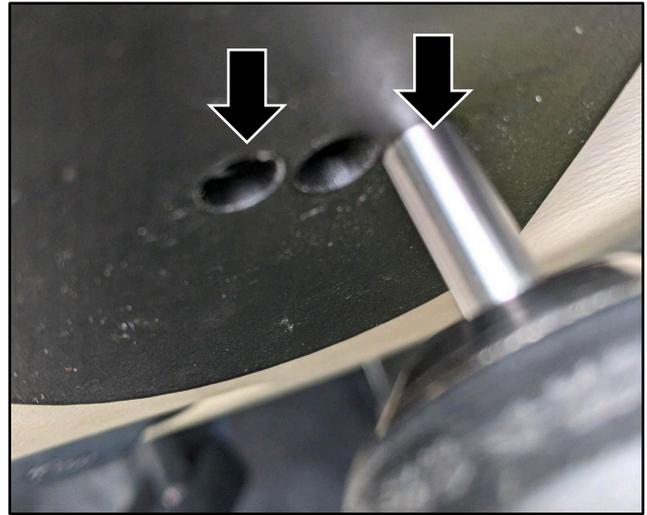
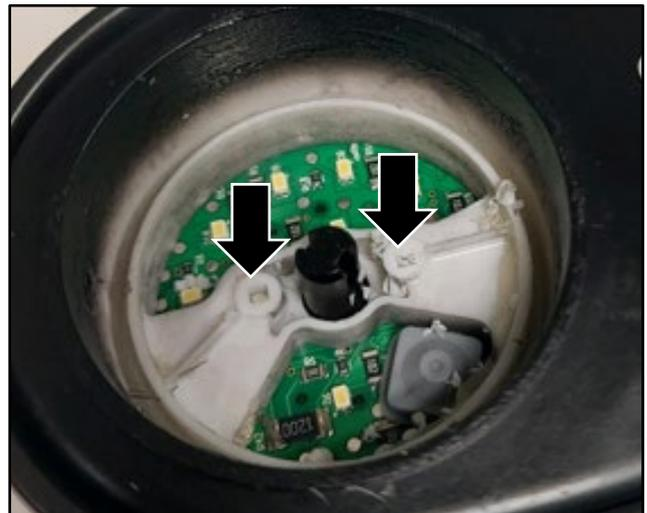

Figure 4
Figure 5
3. Use the drill to slowly mill both sides of the damaged plastic through the alignment jig (refer to Figure 4) until the damaged plastic is flat (refer to Figure 5).